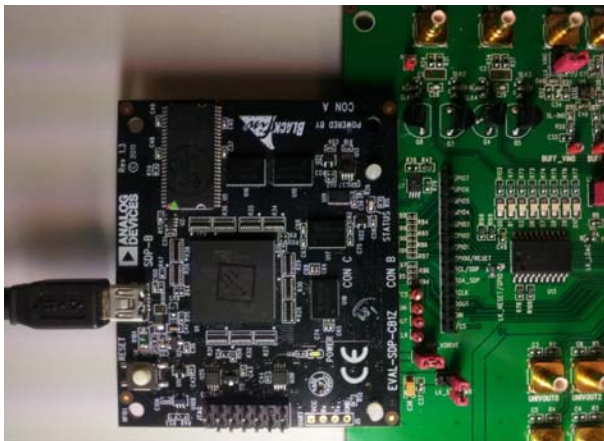

Figure 7. **EVAL-AD7293SDZ** Connected to the **EVAL-SDP-CB1Z**
2. Plug the USB cable into the **EVAL-SDP-CB1Z**, then plug the **EVAL-SDP-CB1Z** into the **EVAL-AD7293SDZ** and secure it using plastic screws (see Figure 7).